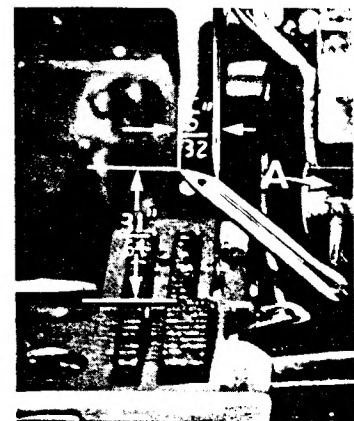

Fig. 10
Next, turn handwheel until looper is at the left end of its travel; check dimensions of upper looper point with respect to needle and throat plate (Fig. 10). If resetting is necessary, do it by moving the upper looper holder (A, Fig. 10). Figure 10 represents the dimensional setting for 695B001 and 002. For 695B003, the settings are $9/64$ and $35/64$ inch. For example, dimension $31/64$ inch is increased by turning upper looper holder counterclockwise looking from left end of machine; dimension $5/32$ inch is increased
If it becomes necessary to move looper thread pull-off (AF), be sure to take up all end play in needle drive shaft before tightening. If upper looper is located so that it is higher over throat plate than recommended in Fig. 10, the purl will tend to form near top edge. If upper looper is too low, the purl will form nearer bottom edge.